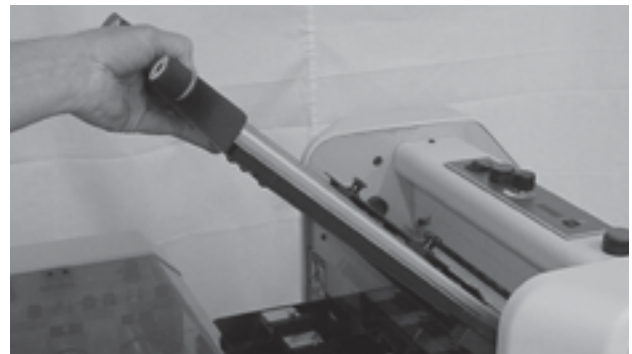

Fig 11
3. Install the #1 (upper) fold plate (Fig 11).